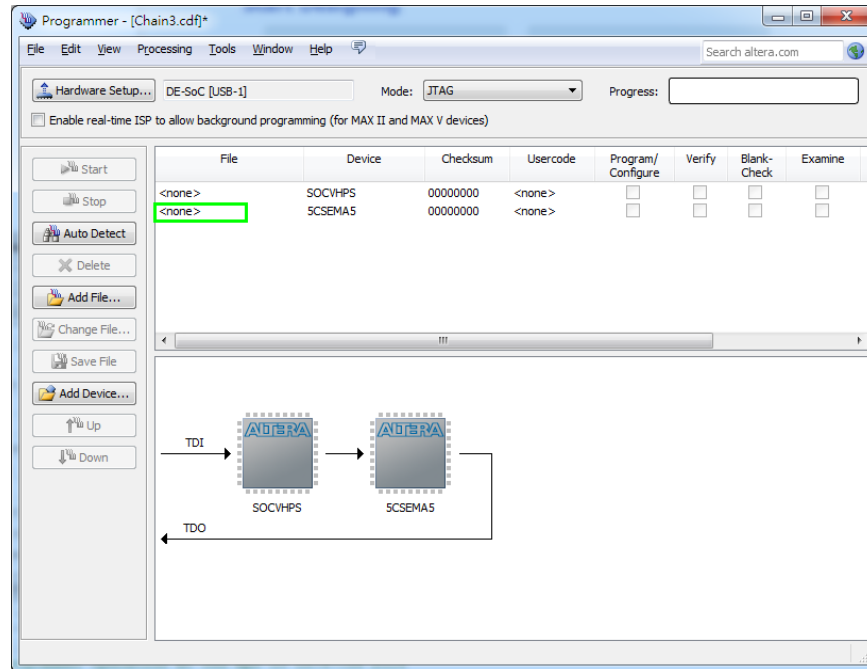

Figure 8-6 Two devices are detected in the Quartus II Programmer
3. Click **Auto Detect** and then select the correct device. Both FPGA device and HPS should be detected, as shown in **Figure 8-6**.
4. Double click the green rectangle region shown in **Figure 8-6** and the **Select New Programming File** page will appear. Select the .jic file to be programmed.
3. Click **Auto Detect**, and then select correct device, both FPGA device and HPS will detected. (See **Figure 8-6**)
4. Double click the green rectangle region shown in **Figure 8-6**, and the **Select New Programming File** page will appear. Select the correct .jic file.